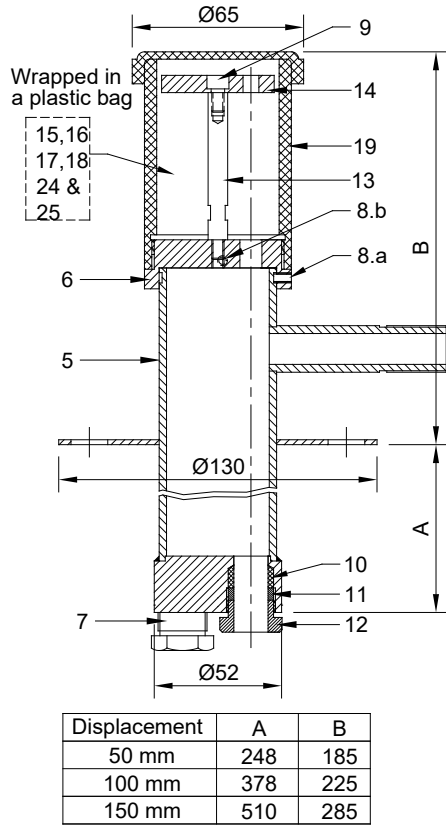

Figure 2.1 - Single point BHE reference head assembly
The sensor shaft is fixed to female thread in connecting rod through a sensor lock nut (18), link plate (16), sensor tightening nut (17) and a reference button (15) - refer to figures 2.1 and 2.2. The outside body of sensor is fixed to a adopter cum guide plate (6) in the flanged housing at the face of the borehole. The system is rugged and is protected by a protecting cover (19). Flange assembly (5) .Nipple is an integral part of flanged housing (22) through which cable for sensors can be taken to a junction box (23) and then through a multi-core cable to any distant location.
For layout drawings of vibrating wire borehole extensometers: See figures 2.1 – 2.2.
Refer to figures 2.1& 2.2 for details of single point BHE reference head assembly. Reference head assembly is supplied packed from factory as per items listed in figure 2.1. The sensor is separately supplied but it is very convenient to assemble it at site inside the reference head assembly along with the connecting rod ends according to instructions given in § 3.